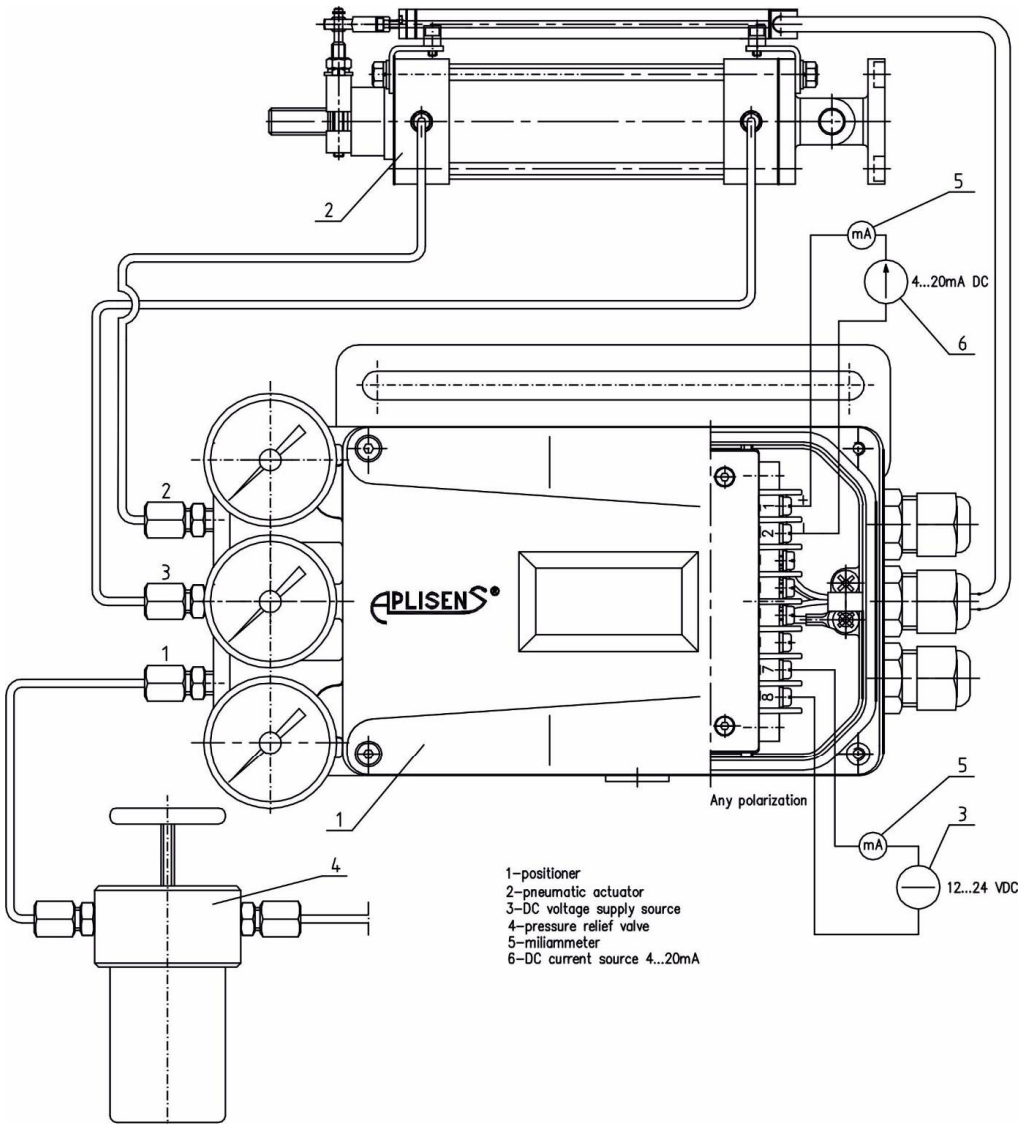

Fig. 19. Diagram of wiring circuit for launching APIS-2X1-... and APIS-2X2-... positioner (linear double-acting actuator)
- Positioner APIS-2X1-... and APIS-2X2-... installed on the actuator acc. to sect. 10.6. should be wired acc. to the diagram presented in Fig. 19.